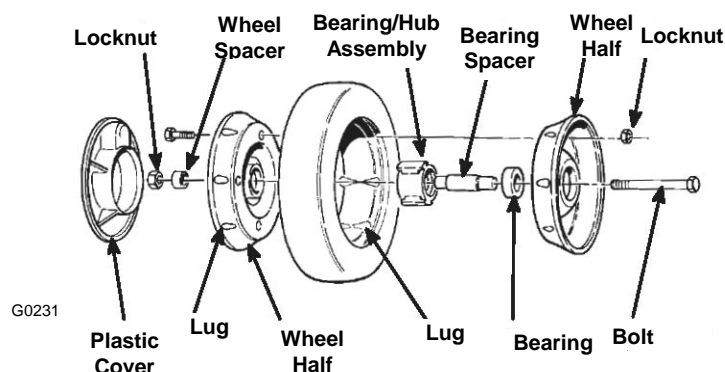

Figure 33
3. Loosen the nut on the cable bracket (Fig. 33).
3. Loosen the jam nut on the blade brake cable clamp (Fig. 33).
3. Remove the bolt, the wheel spacer, and the locknut mounting the wheel to the pivot arm (Fig. 33).
4. Separate the wheel halves from the tire by removing four bolts and four locknuts (Fig. 33).
NOTE: If you remove the bearings from the bearing/hub assembly, remove them by pressing on the bearing spacer (Fig. 33).
1. Position the tire onto one wheel half, aligning the lugs on each (Fig. 33).
2. Place the bearing/hub assembly into the center hole of the wheel half. Ensure that the legs of the hub are positioned over the flange of the hole (Fig. 33).
3. Place the other wheel half onto the bearing/hub assembly, aligning the wheel and the tire slugs and the mounting holes (Fig. 33).
4. Using two fully threaded screws or bolts (1/3-20 x 1.5 in) and non-locking nuts, loosely secure the wheel halves together. Mount the screws or bolts in the opposing holes (Fig. 33).
5. Check the alignment of all parts and tighten the screws, alternating from side to side for a uniform fit until the wheel halves are drawn together (Fig. 33).
7. Install the wheel to the pivot arm with the cap screws, a spacer, and a locknut. Ensure that the spacer is positioned between the wheel hub and the pivot arm (Fig. 33).